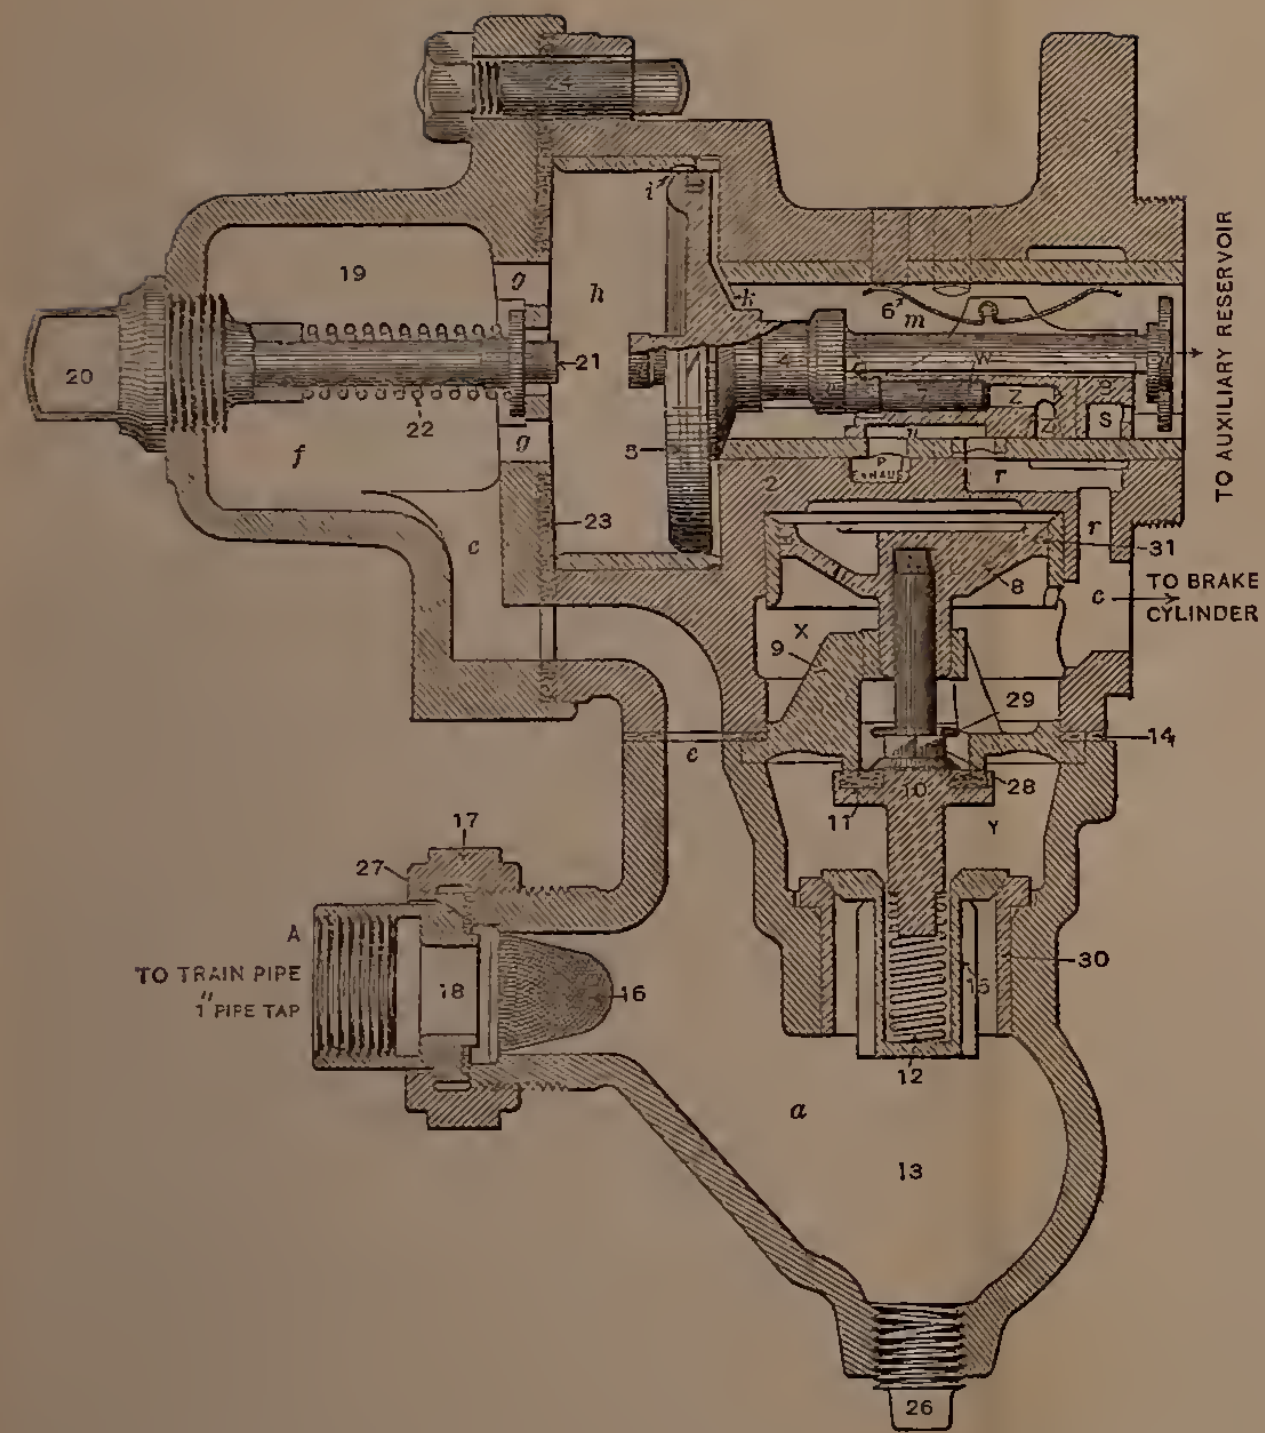

FIG. 5.—QUICK-ACTION TRIPLE VALVE, RELEASE POSITION.
A. The strainer in the train line where the cross-over pipe leading to the triple joins the main train-line, or the strainer 16 in the triple (Fig. 5) being filled with dirt, scale, cinders or oil. Port *i* or *k* might be plugged, the triple might be cut out, or there might be a leak in the auxiliary which let the air out as fast as it came in.
Q. Water sometimes collects in cavity 13 (Fig. 5) of the triple. Where does it come from?
A. A sticky triple or a broken graduating pin. (The one which fastens the graduating valve to the piston stem as shown by the dotted lines, Fig. 5.)
A. A leaky slide valve or a leaky rubber-seated valve (Fig. 5).
A. The rubber-seated valve 10 (Fig. 5) leaking will allow the pressure to leave cavity *Y*. The train-line pressure then raises check 15 and passes through cavity *Y* across the rubber-seated valve, through cavity *x*, ports *c* and *r*, into the exhaust cavity *n* of the slide valve and out to the atmosphere through port *p*. When the brake is applied, port *n* in the slide valve is closed to port *r*, consequently the blow stops.
A. Gasket 14 (Fig. 5) leaking between *e* and cavity X, or the gasket leaking between the brake cylinder and auxiliary where the triple is bolted to the cylinder. On freight equipments there is a pipe which runs inside the auxiliary to the brake cylinder; this pipe leaking will also cause a blow.
Q. What effect would the leaking of graduating valve 7 (Fig. 5) have?